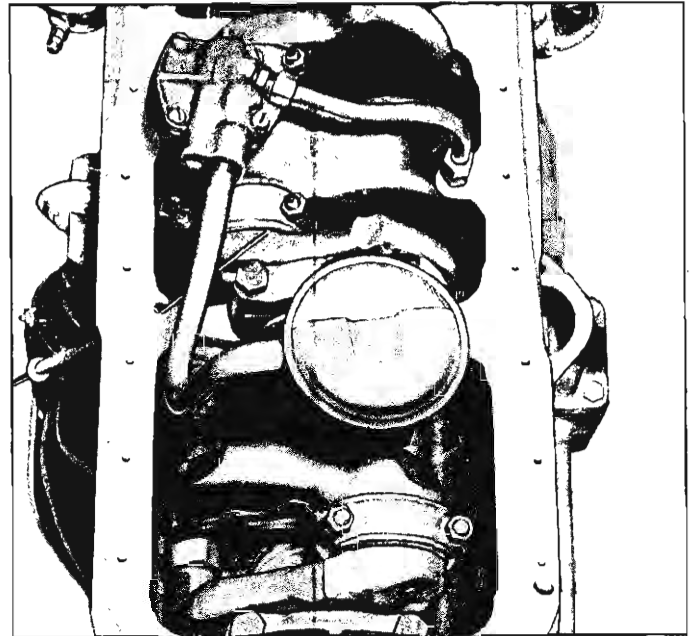

Fig. 30—Oil Pump Installed
6. Place oil pump in block fitting, aligning oil lines and adjust bottom of pick-up screen parallel to oil pan rails as shown in Figure 30. Install oil pump retaining sleeve lock screw and tighten it securely.